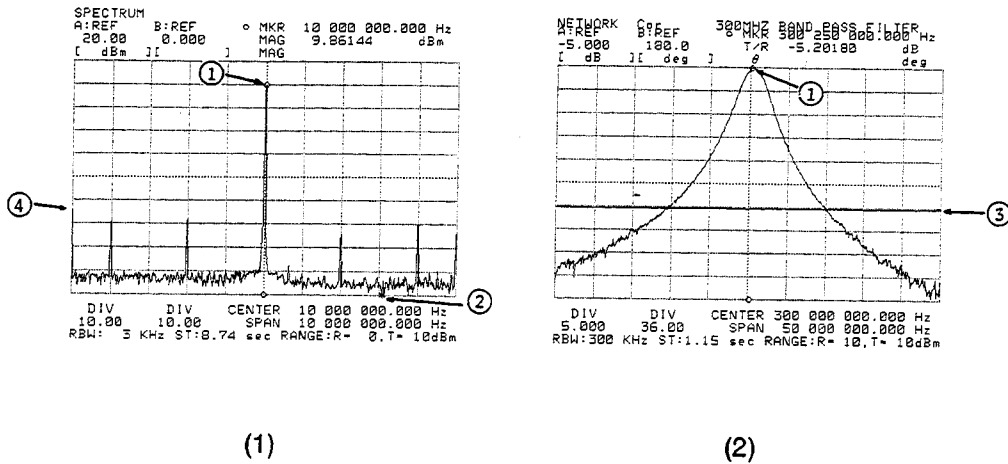

Figure 4-13. MKR→MAX, MIN, LCURS→AVRG and NEXT PEAK
To move the marker or line cursor to the position with the maximum value, press the '**MKR→MAX**' softkey or the '**LCURS→MAX**' softkey, respectively. If this softkey is pressed in the o & * markers mode (active oMKR) the o marker will move to point 1 as shown in Figure 4-13.
To move the marker or line cursor to the position with the minimum value, press the **'MKR→MIN'** softkey or the **'LCURS→MIN'** softkey, respectively. If this softkey is pressed in the **o & * markers mode** (active *MKR), the * marker will move to point 2 as shown in Figure 4-13, (1).
To move the line cursor to the position with the average value for the measurement data, press the **'LCURS→AVRG'** softkey. If this softkey is pressed in the **o marker & Line Cursor mode**, the line cursor will move to position 3 as shown in Figure 4-13, (2).
To move the marker to the next lower peak referenced to the current peak, press the **'NEXT PEAK'** softkey. If this softkey is pressed after the **'MKR→MAX'** softkey in the **o & * markers mode** (active oMKR), the o marker will move to point 4 as shown Figure 4-13, (1).